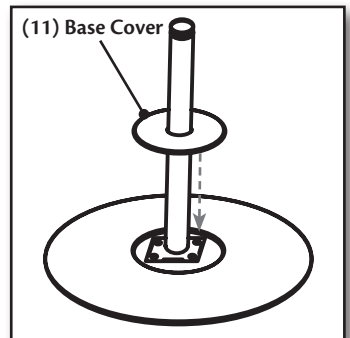

Figure 9.
3. Remove the Adjustment Knob(10) by twisting counter-clockwise and slide the Base Cover(11) down the Telescope Pole(7) until it covers the Screws at the Stand Base(8). **Figure 9.**